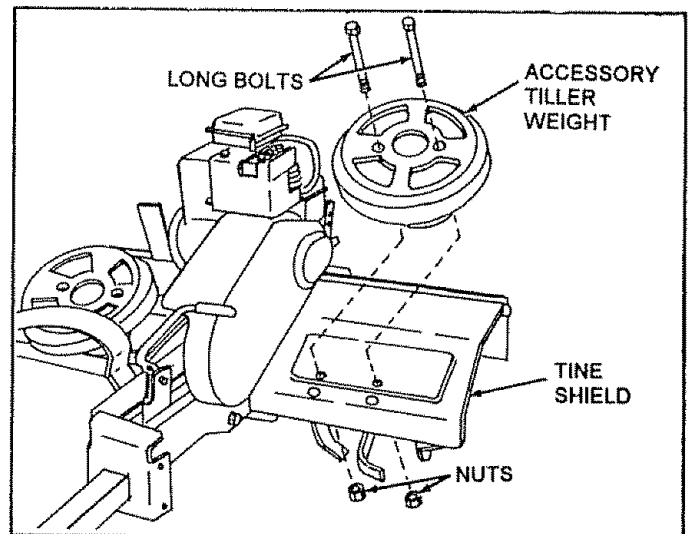

FIG. 3
- Remove two Carriage Bolts and Nuts from the front of each Tine Shield, located approximately 3-1/2 inches from the front edge. (See Fig 3)